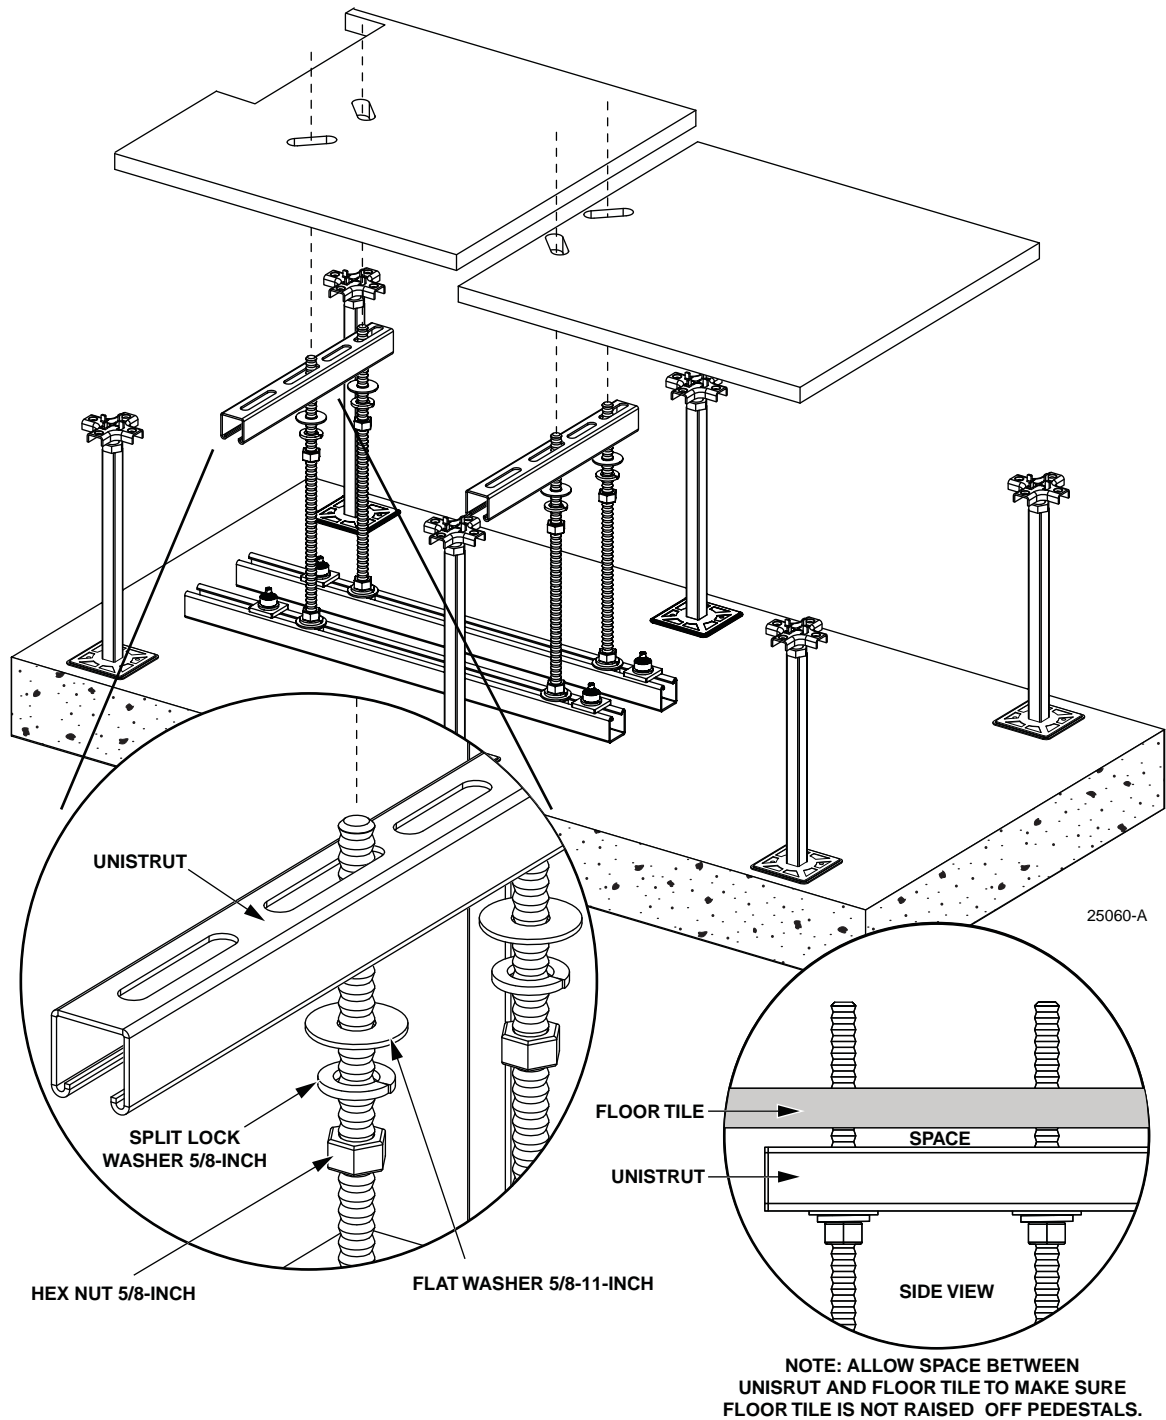

Figure 18. Placing Floor Tiles on Threaded Rods
17. Assemble hex nuts, split lock washers, flat washers, unistruts, and floor tiles onto threaded rods. Refer to Figure 18.